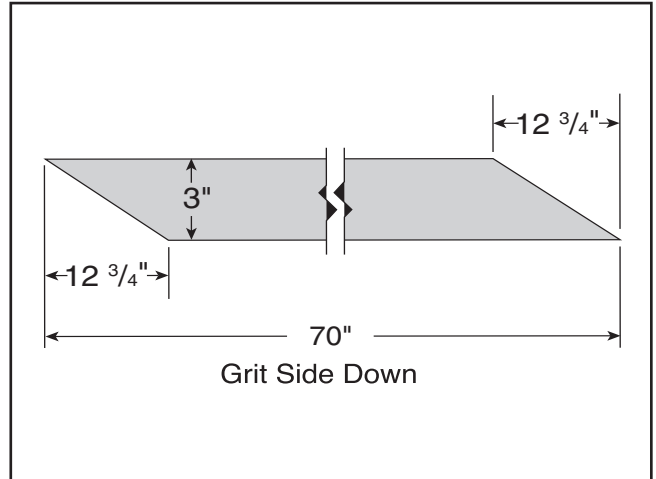

Figure 11. Sandpaper pattern.
4. Use the old sandpaper as a pattern to cut out the new sandpaper, or use the pattern in **Figure 11**, to cut the sandpaper to the necessary shape.